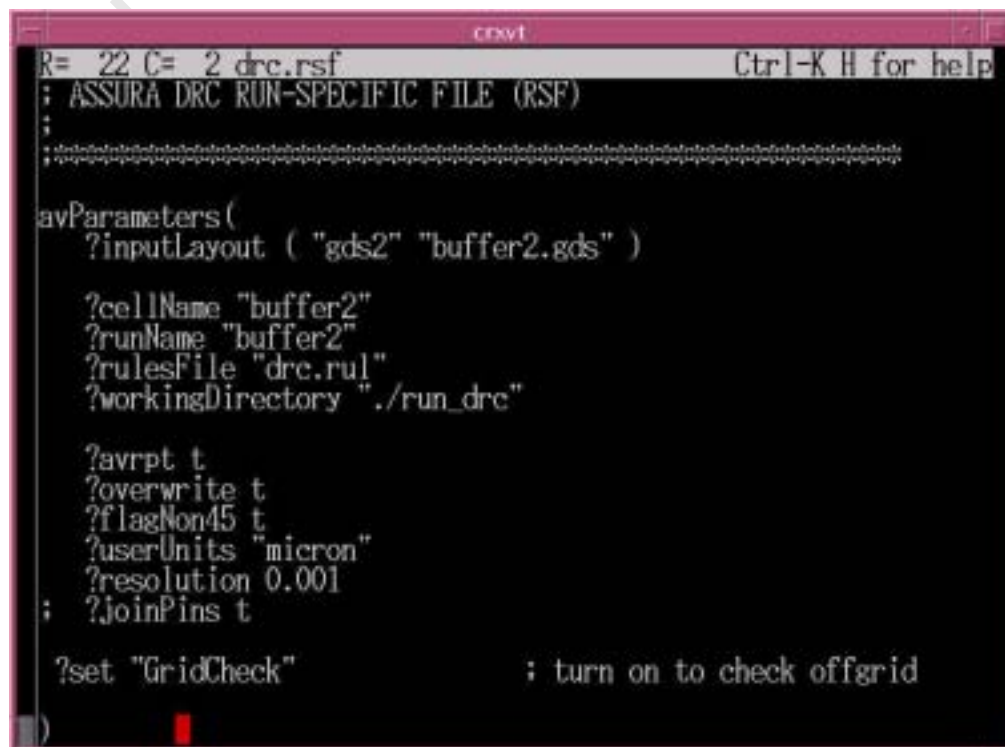

FIG. 30 Edit Assura DRC RSF file
1. Edit Assura DRC RSF file to specify the necessary information (Fig 30).